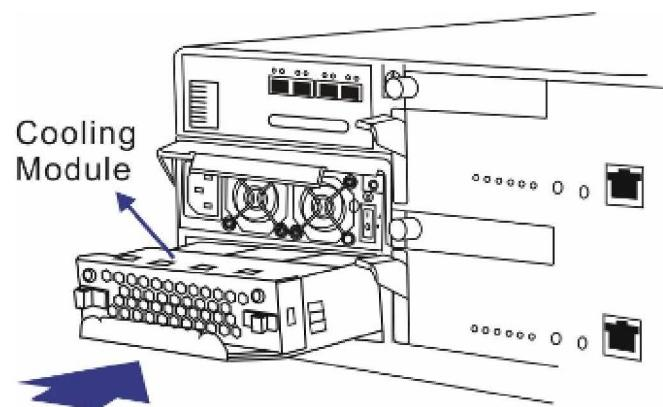

Figure 5-28: Installing the New Cooling Module
Step 2. *Install the new cooling module* by aligning the module with the cooling module slot on the lower section of the PSU module and gently sliding it in. The latches will hold the module in place. (See *Figure 5-28*)